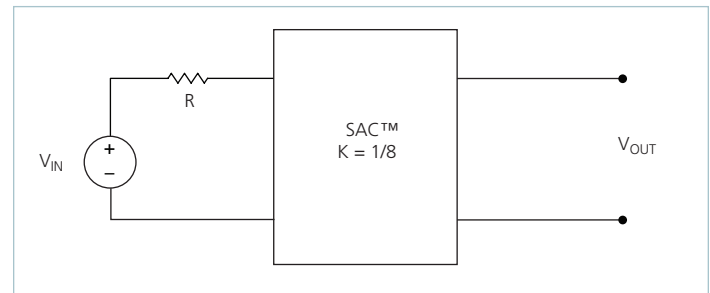

Figure 18 — $K = 1/8$ Sine Amplitude Converter™ with series input resistor
The use of DC voltage transformation provides additional interesting attributes. Assuming that $R_{OUT} = 0\Omega$ and $I_Q = 0A$, Eq. (3) now becomes Eq. (1) and is essentially load independent, resistor R is now placed in series with V_{IN} as shown in Figure 18.
Assuming that $R = 1\Omega$, the effective R as seen from the secondary side is $15.6m\Omega$, with $K = 1/8$ as shown in Figure 18.